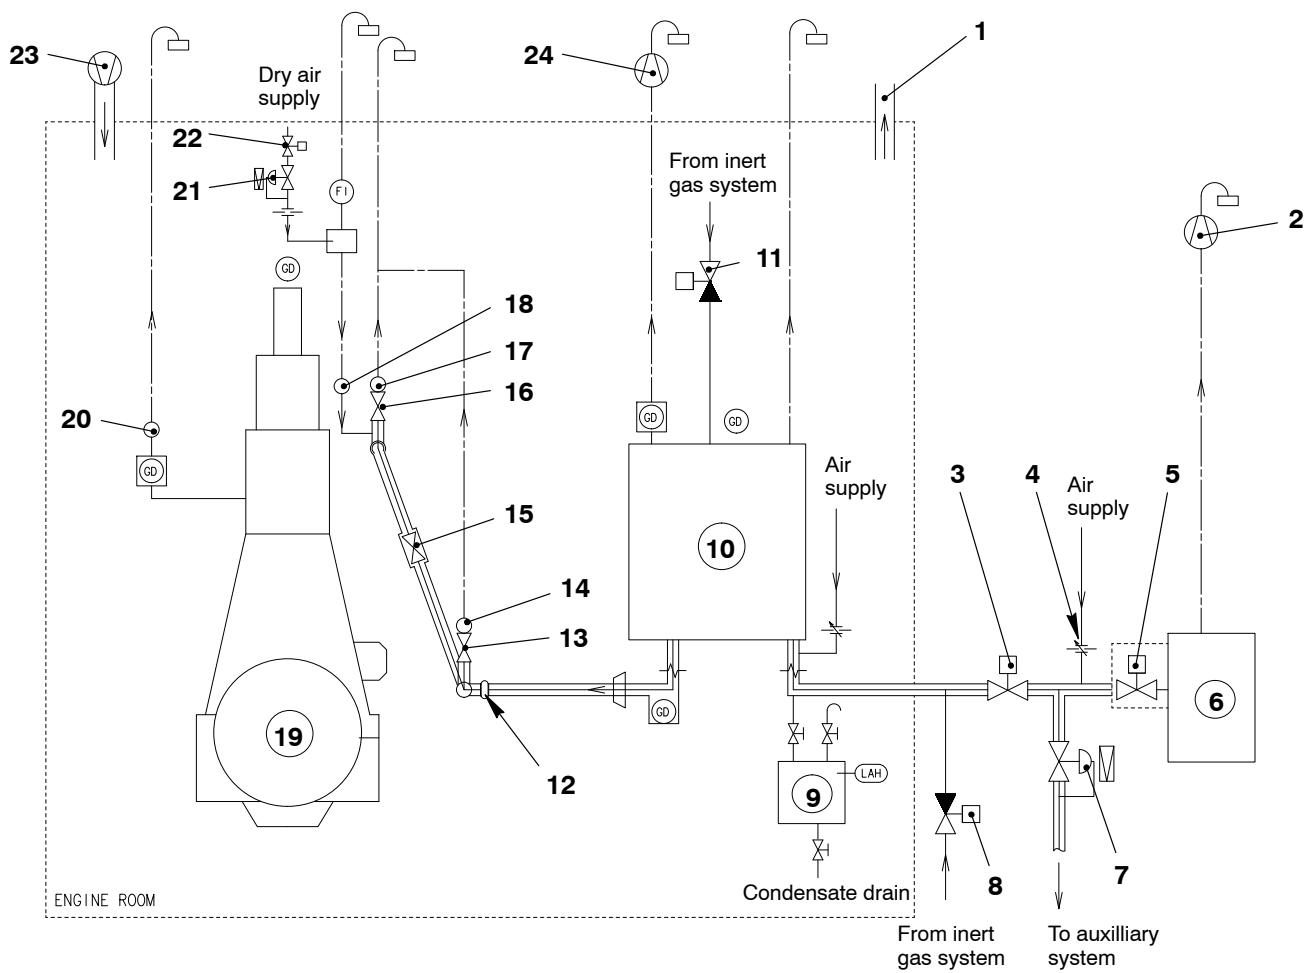

Fig. 1: Gas Fuel System and Gas Valve Unit
The gas fuel system (see Fig. 1) has an internal gas system, gas valve unit (GVU) and an external gas supply system.
The air inlet (3) supplies air to the annular spaces in the double wall pipes. The air flows through the annular spaces to the GVU where a fan removes the air to the outside of the engine room (see Fig. 1).